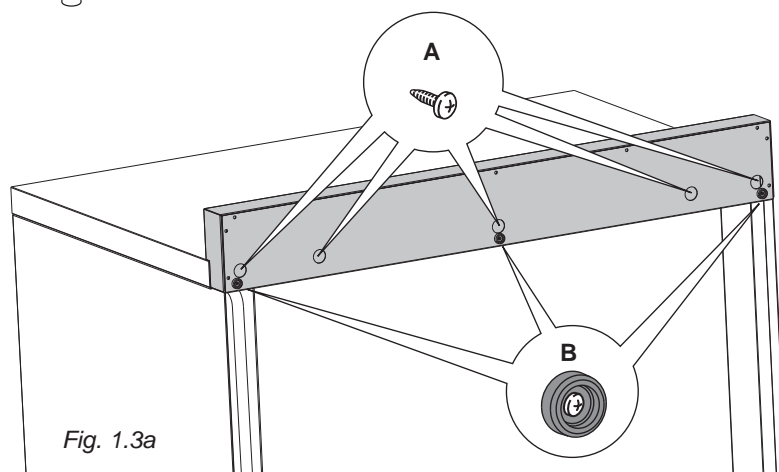

Fig. 1.3a
- If replacing the island trim with the backguard, assemble it by using the same screws/spacers used for fixing the island trim (figures 1.3a, 1.3b).